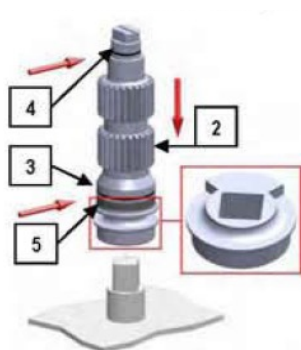

Fig.19
2. Place the pinion ( 2 ) on a support with a square of the same size of the female attachment. Make sure that the pinion is provided with lower O-ring ( 3 ), spacer ( 5 ) and upper O-ring ( 4 ). Lubricate the O-rings (see arrows fig. 19). The recommended lubricating grease is "KLUBER" TRIBO STAR 1EP"